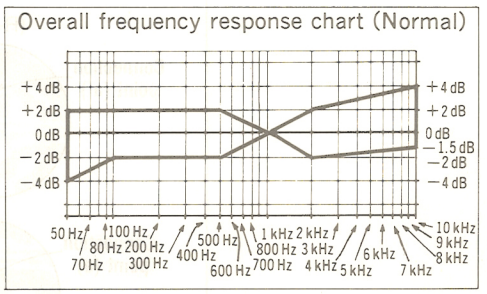

Fig. 12
<p>G Overall frequency response</p> <p>Condition:</p> <ul style="list-style-type: none"> <li>* Record/playback mode</li> <li>* Normal tape mode</li> <li>* CrO2 tape mode</li> <li>* Metal tape mode</li> <li>* Input level controls ... MAX</li> <li>* Output level control ... MAX</li> </ul> <p>Equipment:</p> <ul style="list-style-type: none"> <li>* VTVM</li> <li>* AF oscillator</li> <li>* ATT</li> <li>* Oscilloscope</li> <li>* Resistor (600 Ω)</li> <li>* Test tape (reference blank tape)</li> <li>... QZZCRA for Normal</li> <li>... QZZCRX for CrO2</li> <li>... QZZCRZ for Metal</li> </ul>	<p>Note:</p> <p>Before measuring and adjusting, make sure of the playback frequency response (For the method of measurement, please refer to the playback frequency response).</p> <p>Overall frequency response adjustment by recording bias current</p> <p>(Recording equalizer is fixed)</p> <ol style="list-style-type: none"> <li>1. Make connections as shown in fig. 13.</li> <li>2. Place UNIT into normal tape mode and load the test tape (QZZCRA).</li> <li>3. Input a 1 kHz, -24 dB signal through LINE IN. Place the set in record mode.</li> <li>4. Fine adjust the attenuator to obtain 0.4 V LINE OUT output.              * Make sure that the input signal level is -24 ± 4 dB with 0.4 V output voltage.</li> <li>5. Adjust the attenuator to reduce the input signal level by 20 dB.</li> <li>6. Adjust the AF oscillator to generate 50 Hz, 100 Hz, 200 Hz, 500 Hz, 1 kHz, 4 kHz, 8 kHz and 10 kHz signals, and record these signals on the test tape.</li> <li>7. Playback the signals recorded in step 6, and check if the frequency response curve is within the limits shown in the overall frequency response chart for normal tapes (fig. 12).</li> </ol> <p>(If the curve is within the charted specifications, proceed to steps 8, 9, 10 and 11.)              If the curve is not within the charted specifications, adjust as follows;</p>
<p>Adjustment ①:</p> <p>When the curve exceeds the overall frequency response chart specifications (fig. 12) as shown in fig. 14.</p>  <p>Fig. 14</p> <ol style="list-style-type: none"> <li>1) Increase bias current by turning VR9 (L-CH) and VR10 (R-CH). (See fig. 1 on page 5.)</li> <li>2) Repeat steps 6 and 7 to confirm. (Proceed to steps 8, 9, 10 and 11 if the curve is now within the charted specifications in fig. 12.)</li> <li>3) If the curve still exceeds the specifications (fig. 12), increase bias current further and repeat steps 6 and 7.</li> </ol> <p>8. Place UNIT into CrO2 tape mode.</p> <p>9. Change test tape to QZZCRX, and record 50 Hz, 100 Hz, 200 Hz, 500 Hz, 1 kHz, 4 kHz, 8 kHz, 10 kHz and 12.5 kHz signals. Then, playback the signals and check if the curve is within the limits shown in the overall frequency response chart for CrO2 tapes (fig. 16).</p> <p>10. Place UNIT into metal tape mode change test tape to QZZCRZ, and record 50 Hz, 100 Hz, 200 Hz, 500 Hz, 1 kHz, 4 kHz, 8 kHz, 10 kHz and 12.5 kHz signals. Then, playback the signals and check if the curve is within the limits shown in the overall frequency response chart for metal tapes (fig. 16).</p> <p>11. Confirm that bias currents are approximately as follows when the UNIT is set at different tape mode.</p> <p>* Read voltage on VTVM and calculate bias current by following formula:</p> $\text{Bias current (A)} = \frac{\text{Value read on VTVM (V)}}{10 (\Omega)}$ <p>Standard value:</p> <p>around 340 <math>\mu</math>A (Normal position)  around 440 <math>\mu</math>A (CrO2 position)  around 710 <math>\mu</math>A (Metal position)</p> <p>}: measured at TP1 (L-CH) and TP2 (R-CH)</p> <p>Adjustment ②:</p> <p>When the curve falls below the overall frequency response chart specifications (fig. 12) as shown in fig. 15.</p>  <p>Fig. 15</p> <ol style="list-style-type: none"> <li>1) Reduce bias current by turning VR9 (L-CH) and VR10 (R-CH).</li> <li>2) Repeat steps 6 and 7 to confirm. (Proceed to steps 8, 9, 10 and 11 if the curve is now within the charted specifications in fig. 12.)</li> <li>3) If the curve still falls below the charted specifications (fig. 12), reduce bias current further and repeat steps 6 and 7.</li> </ol> <p>Overall frequency response chart (CrO2, Metal)</p>  <p>Fig. 16</p>
<p>* Noise reduction selector ... disc/dbx tape</p> <p>Equipment:</p> <ul style="list-style-type: none"> <li>* VTVM</li> <li>* ATT</li> <li>* Resistor (600 <math>\Omega</math>)</li> <li>* AF oscillator</li> <li>* Oscilloscope</li> </ul>	<p>③-1 Standard level adjustment in dbx Encode mode</p> <ol style="list-style-type: none"> <li>1. Make the connection as shown in fig. 12 and apply 1 kHz - 27 dB signal from LINE IN, and set the noise reduction selector to dbx tape position.</li> <li>2. Set unit to record mode, adjust ATT so that the signal level at TP201 (L-CH) and TP202 (R-CH) is 300 mV.</li> <li>3. Adjust VR205 (L-CH) and VR206 (R-CH) so that the output signal level at TP203 (L-CH) and TP204 (R-CH) becomes 300 mV <math>\pm</math> 0.5 dB.</li> </ol> <p>Fig. 12</p>  <p>③-2 Standard level adjustment in dbx Decode mode</p> <ol style="list-style-type: none"> <li>1. Make the connection as shown in fig. 12 and apply 1 kHz - 27 dB signal from LINE IN, and perform the following adjustments.</li> <li>2. Set the noise reduction selector to disc position, and adjust ATT so that the signal level at TP201 (L-CH) and TP202 (R-CH) becomes 300 mV.</li> <li>3. Adjust VR207 (L-CH) and VR208 (R-CH) so that the output signal level at TP203 (L-CH) and TP204 (R-CH) becomes 300 mV <math>\pm</math> 0.5 dB.</li> </ol>